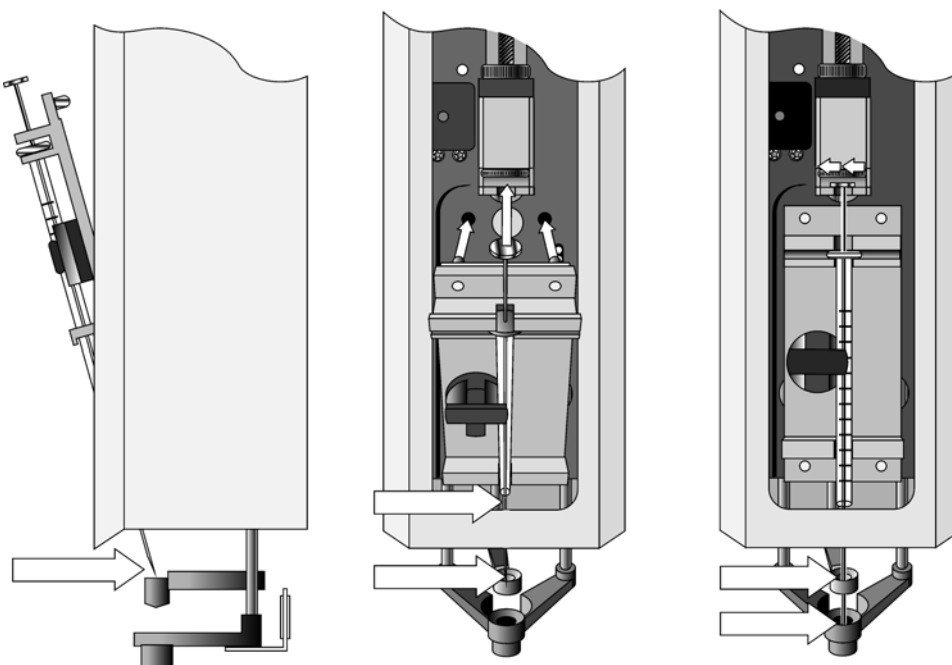

Figure 21. Installing and Removing a Syringe for Liquid Injections
- 5 Move the syringe, installed in the syringe adapter, partially into the Injection Unit. Guide the needle first into the upper needle guide and then into the lower needle guide (see Figure 21)